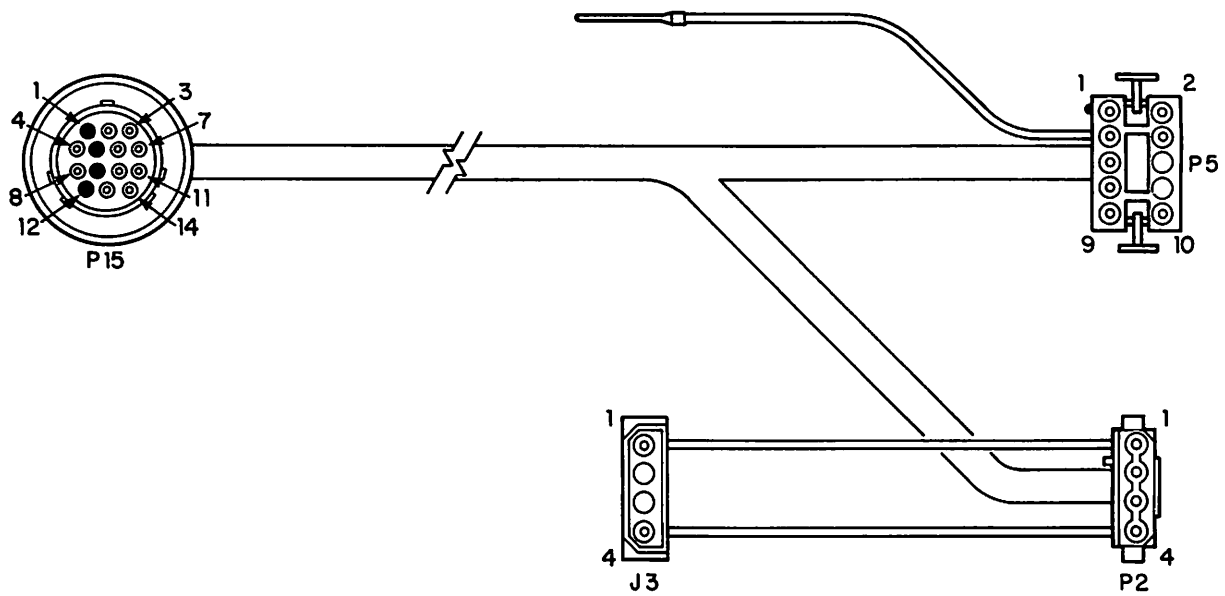

Figure 3.
A. Temperature Simulator Connection (Figure 3)